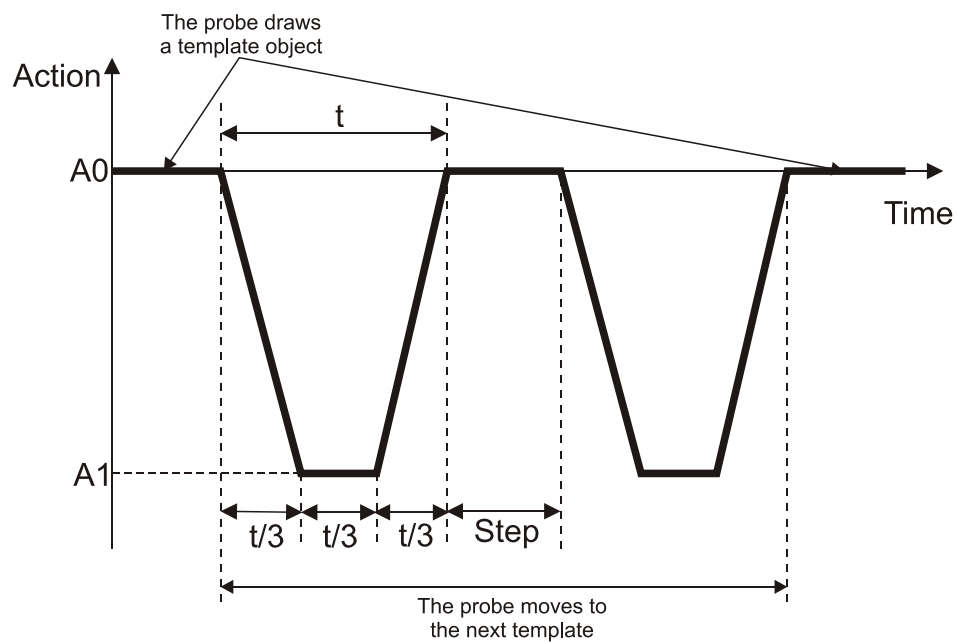

Fig. 13-4. Force applied to the sample in the course of the Pulse lithography.
The Figure below demonstrates a time diagram of the force applied to the sample in the course of the Pulse lithography (Fig. 13-4).
- 3) Pulse shape . The time interval t is divided by three equal parts (see Fig. 13-4). Initial level of the applied force is $A0$. The applied force ramps linearly during the first part (of duration $t/3$), to the level $A1$ and remains constant for the next subinterval $t/3$. Finally, during the last subinterval $t/3$ the force returns to its initial level $A0$.